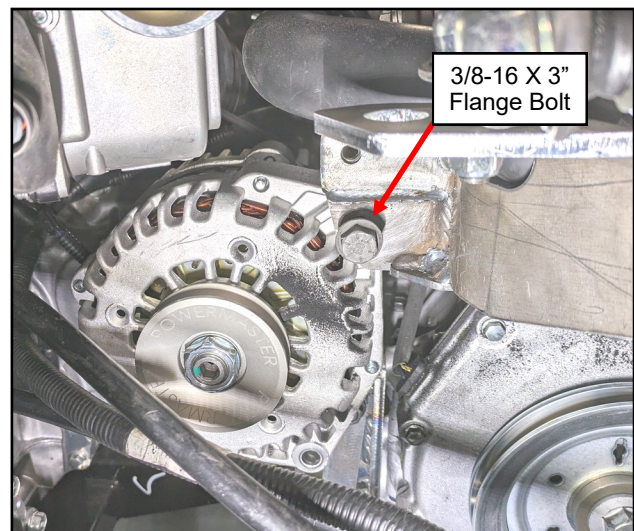

Fig. 3.7 (Install Upper Alternator Bolt)
- 3.7 Install the alternator into the upper alternator mount as shown in figure 3.7. **Note:** Do not fully tighten hardware.